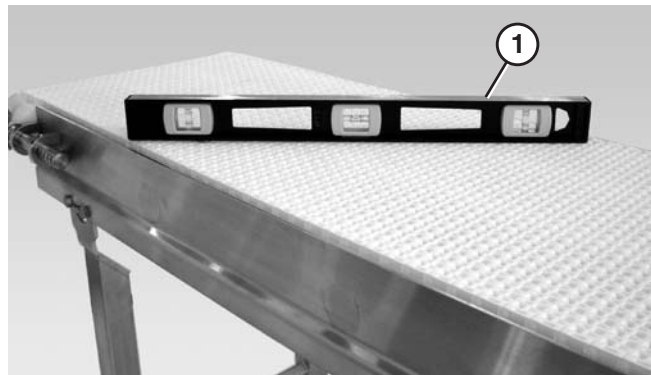

Figure 16
4. Use a level (**Figure 16, item 1**) to verify that both stand legs are the same height.